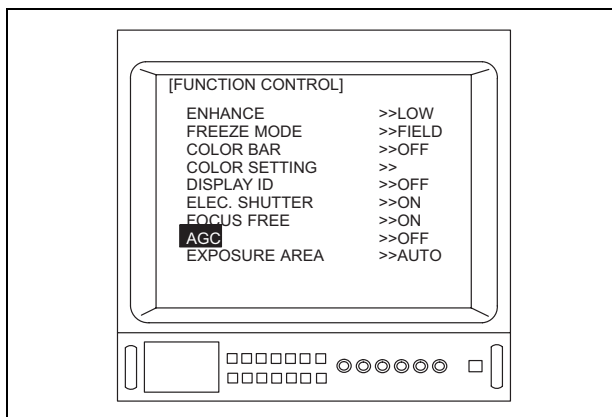

Figure 5.33
5. Depress the menu switch “↵” or the “Enter” key on the keyboard to adjust “AGC” (see Figure 5.33).
- If the AGC is turned OFF, “OFF” appears next to “AGC” in the menu shown in Figure 5.33.